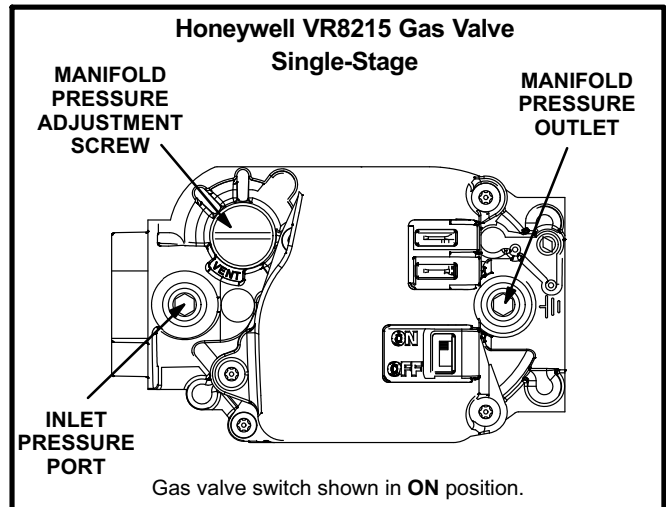

FIGURE 20
Gas Valve Operation (figure 20 and 21)
- 5- *Honeywell VR8215 Gas Valve* - Switch gas valve lever to **OFF**. See figure 20.
- 6- Wait five (5) minutes to clear out any gas. If you then smell gas, **STOP!** Immediately call your gas supplier from a neighbor's phone. Follow the gas supplier's instructions. If you do not smell gas, go to the next step.
- 7- *Honeywell VR8215 Gas Valve* - Switch gas valve lever to **ON**. See figure 20.